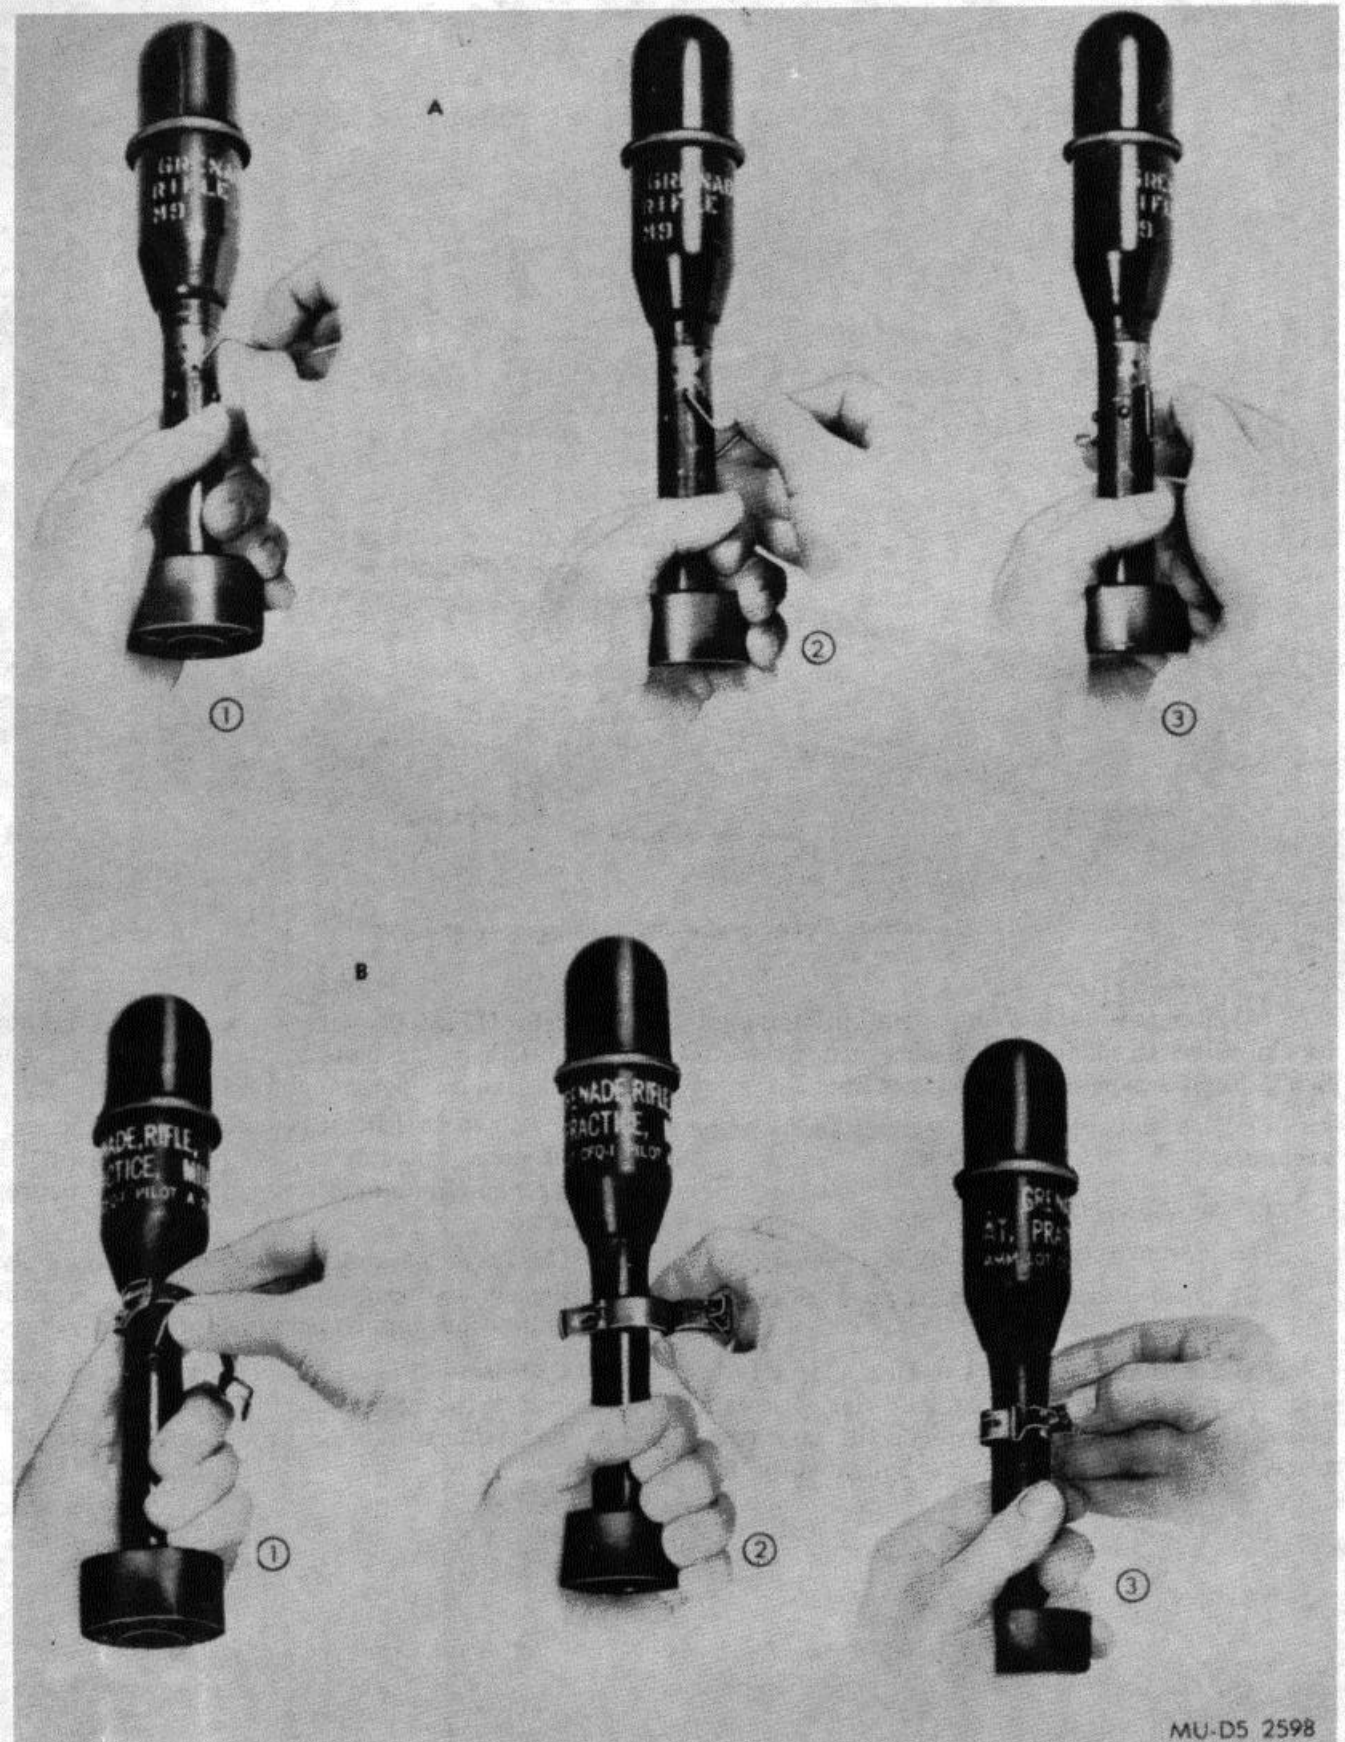

Figure 2-8. Replacement of safety wire and safety clip.
(1) Use only prescribed rifle-launcher-cartridge combination, as shown in applicable rifle operator manuals, to launch rifle grenades.
(2) Always check rifle to assure that it contains no service ammunition.
(3) Do not fire rifle grenade over heads of friendly troops.
(4) Never place rifle grenade on launcher unless grenade is to be fired immediately.
(5) Remove safety wire from Grenade M19A1 and safety clip from Grenade M22 Series just prior to firing. Retain safety clip or wire. Replace safety wire in M19A1 (A, fig 2-8) or safety clip in M22 Series (B, fig. 2-8), if grenades are not fired.
(1) Remove container from packing box.
(2) Open container and remove rifle grenade.
(3) See that safety wire in Grenades M19A1 and safety clip on Grenades M22 Series are in place. If safety wire or safety clip is not in place, but available, install as indicated in figure 2-8. If safety wire or safety clip is not available, leave grenade in place and contact authorized disposal personnel for disposition.
(4) Inspect Rifle Grenades M31 for condition of nose protector cap. If cap is dented, return grenade to ammunition supply personnel for disposition.
(5) Inspect stabilizer tube and fin assembly. If either is dented or deformed, return grenade to ammunition supply personnel for disposition.